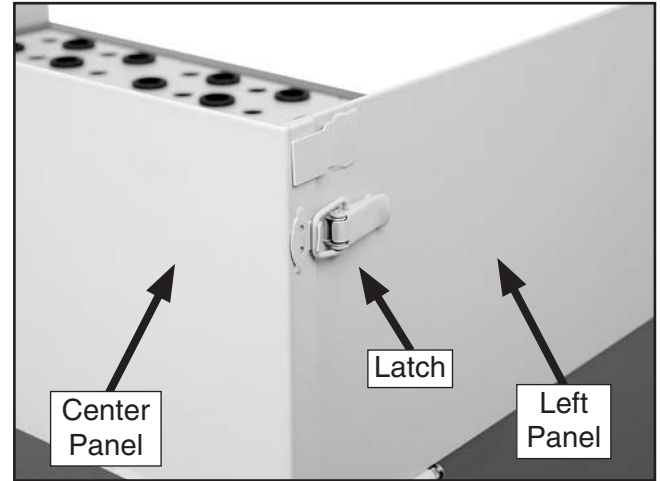

Figure 11. Panels secured with latches (one shown).
9. With side panels in upright position, slide center panel (see **Figure 11**) into side panel brackets and secure with latch.